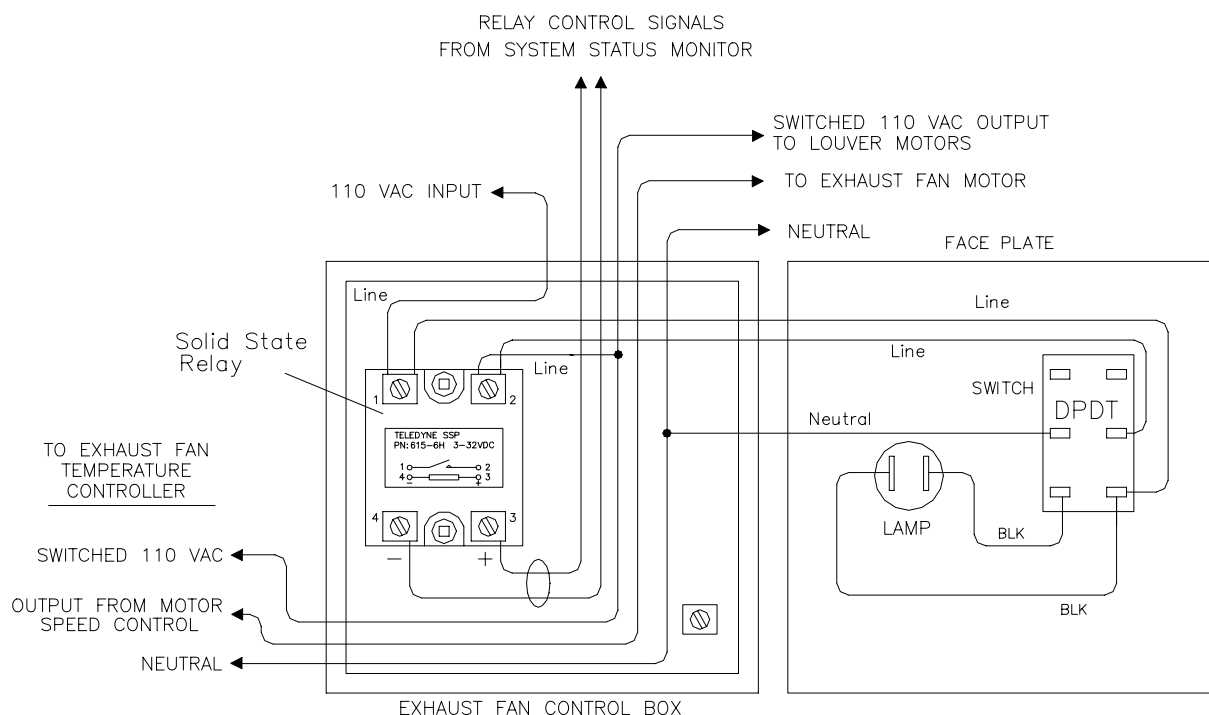

Figure 3-13 Exhaust Fan/Louver Control Box Wiring Diagram
6. Connect the control and power wires to the relay prior to mounting the relay in the bypass box (see Figure 3-13 for a wiring diagram).